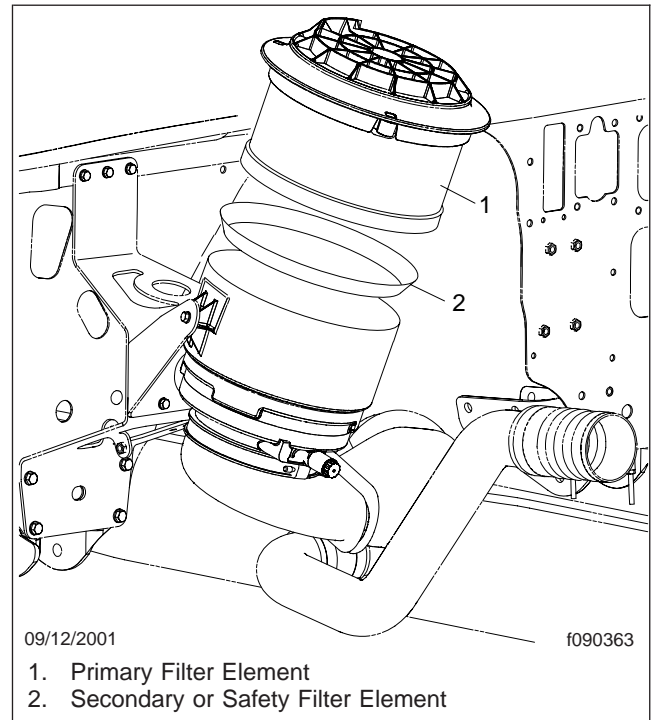

Fig. 12.2, Air Cleaner Filter Elements
- 5.2 Replace the primary filter element in the air cleaner if the yellow signal stays locked at 25 inH₂O for Cummins or Mercedes-Benz engines. See **Group 09** of the *Saf-T-Liner C2 School Bus Workshop Manual* for filter element replacement instructions, or take the vehicle to an authorized Freightliner Custom Chassis dealer. See **Fig. 12.2**.